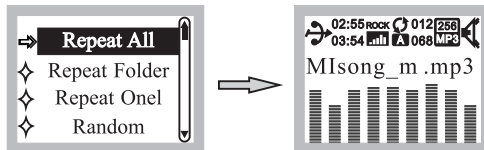

Fig. 12
(F) Repeat Mode: Press PRV/TEN  or NEXT/TEN  to select parameter, Fig. 12.
- (1) Repeat All:  .
- (2) Repeat Folder:  .
- (3) Repeat One:  .
- (4) Random:  .